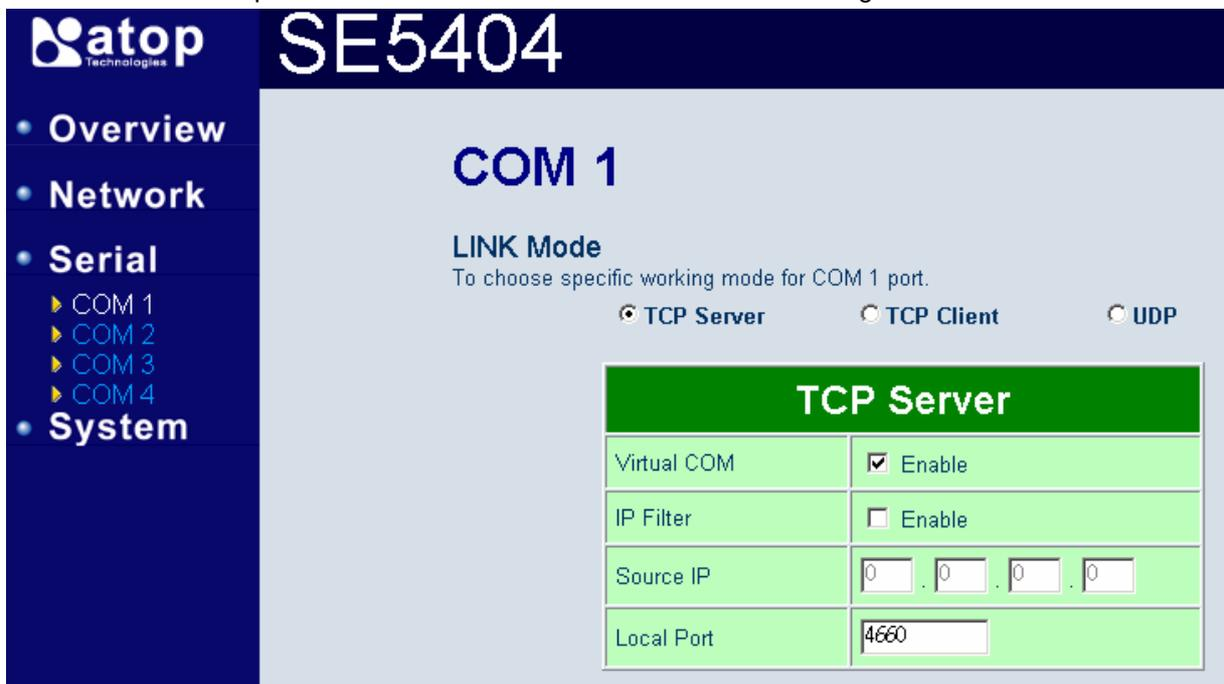

Figure 4.2 Enabling Virtual COM port
- ➔ Enter in the local port number on “**Local Port**” field as indicated in Figure 4.2.